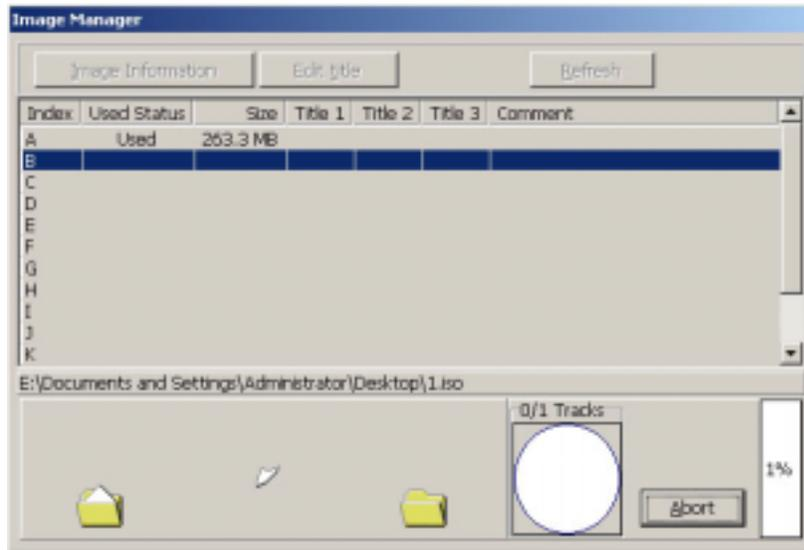

Figure 5
(6) Click [OK] to transmit the image file as Figure 5 shows.